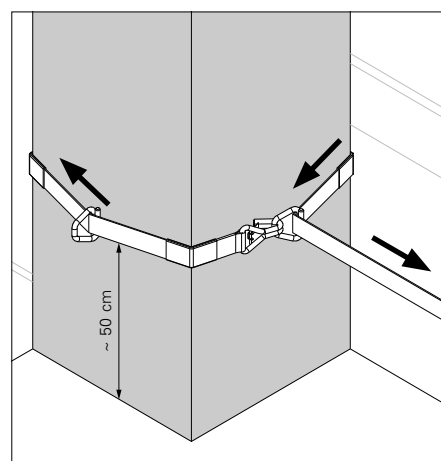

Fig. A2.02
2. Align and tension on next support. (Fig. A2.02 + A2.02a + A2.02b)